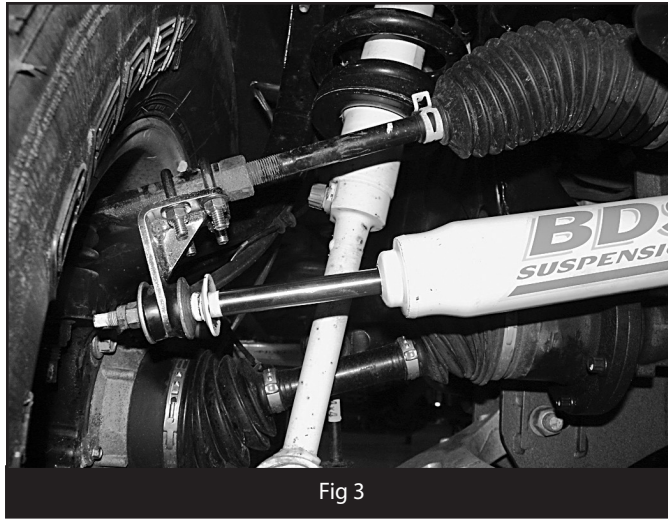

Fig 3
4. Tighten 3/8" nuts on stabilizer until bushings begin to expand, lock off jam nuts to 25 ft-lbs. (Figure 3)